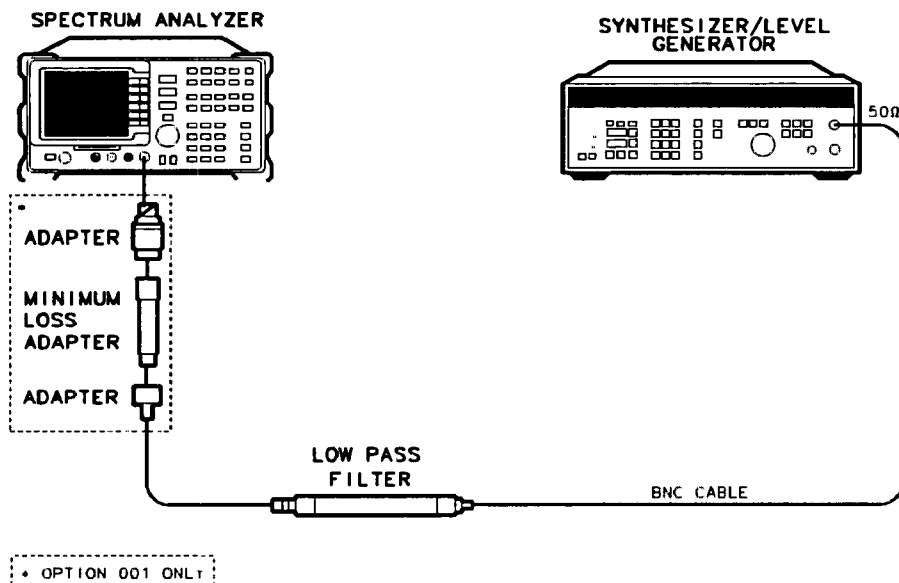

Figure 3-9. Second Harmonic Distortion Test Setup, 30 MHz
2. Connect the equipment as shown in Figure 3-9.